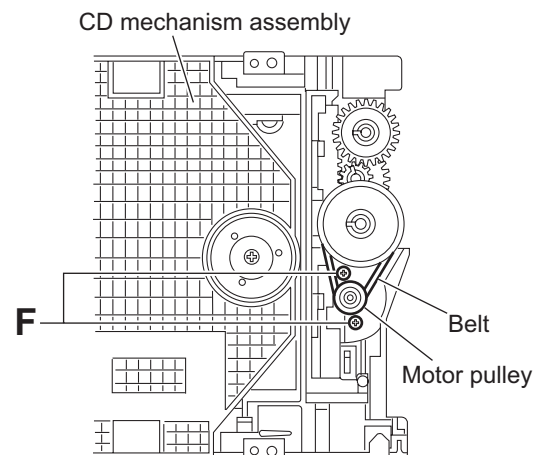

Fig.13
- (2) From the top side of the CD mechanism assembly, remove the belt from the motor pulley. (See Fig.13)
- (3) Remove the two screws **F** attaching the motor to the CD mechanism assembly and take out the motor from the bottom side of the CD mechanism assembly. (See Fig.13)